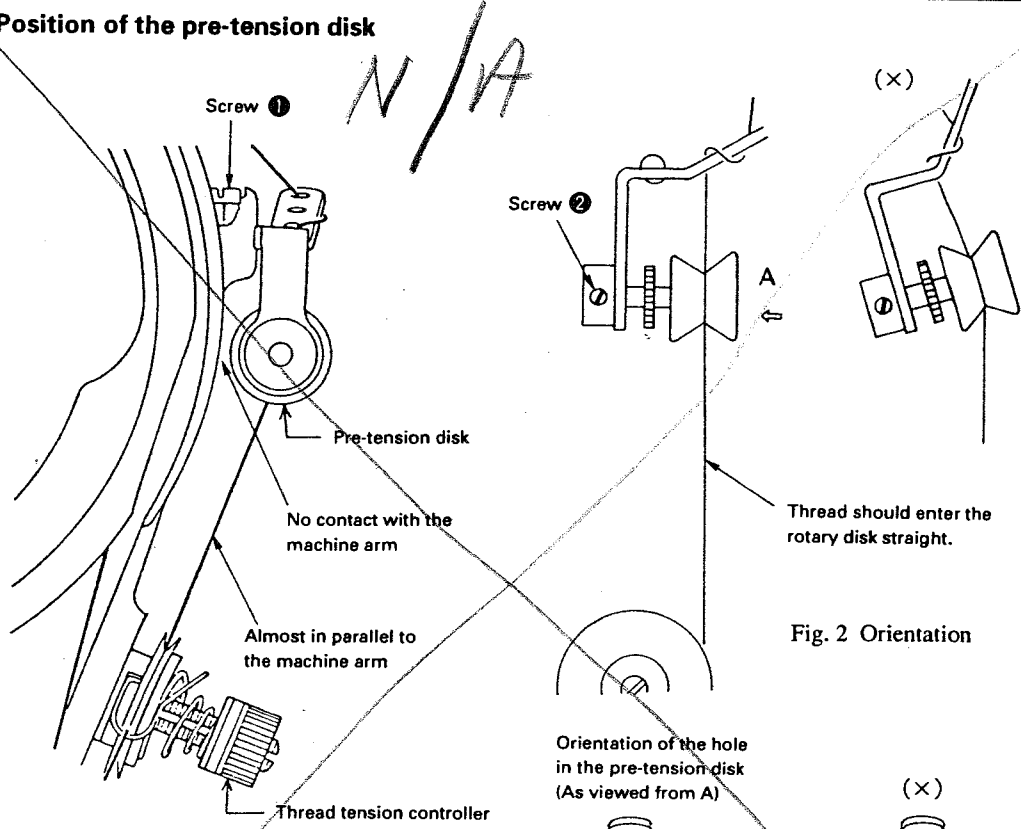

Fig. 1 Longitudinal position
<ol style="list-style-type: none"> 1. Loosen screw ❶, and adjust the longitudinal position of the pre-tension disk so that it does not come in contact with the machine arm and the thread is in parallel to the machine arm as illustrated in Fig. 1. 2. Adjust the orientation of the pre-tension disk so that the thread enters the rotary disk straight. 3. Loosen screw ❷, and adjust the orientation of the hole in the pre-tension disk is straight with respect to the thread. 	<ul style="list-style-type: none"> ○ If the pre-tension disk comes in contact with the machine arm, uniform tension will not be applied to the thread and the finished quality of seam will be impaired. ○ If the orientation of the pre-tension disk is not properly adjusted, the pre-tension disk will rise to cause irregular thread tension or slippage of the rotary disk. As a result, thread breakage and stitch skipping will be caused. ○ If the orientation of the hole in the pre-tension disk is not properly adjusted, the thread will be likely to slip off the pre-tension disk.